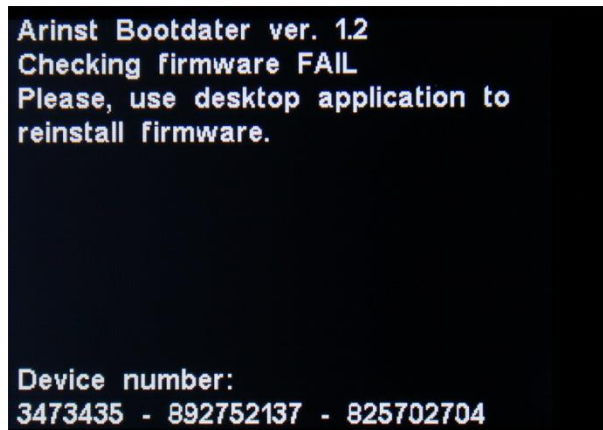

Figure A3.2 - Unsuccessful firmware download
3.2. Unsuccessful firmware download. (Figure A3.2). Connect the device to a PC and update the device firmware again.